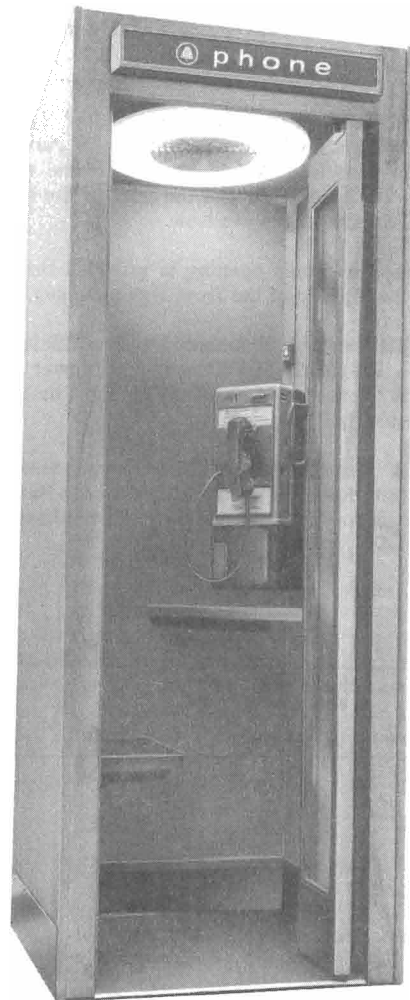

Fig. 1—KS-19340 Wood Booth
1.02 The KS-19340 wood booth (Fig. 1) is designed for sit-down or stand-up service, and for single or multiple installation.